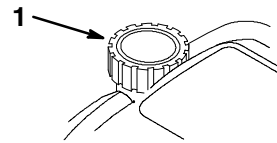

Figure 9
2. Clean around the fuel tank cap (Fig. 9).